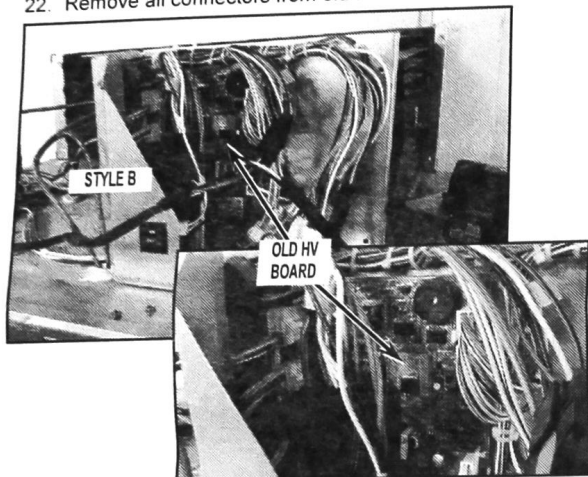

FIGURE 17
22. Remove all connectors from old HV board. See Figure 17.